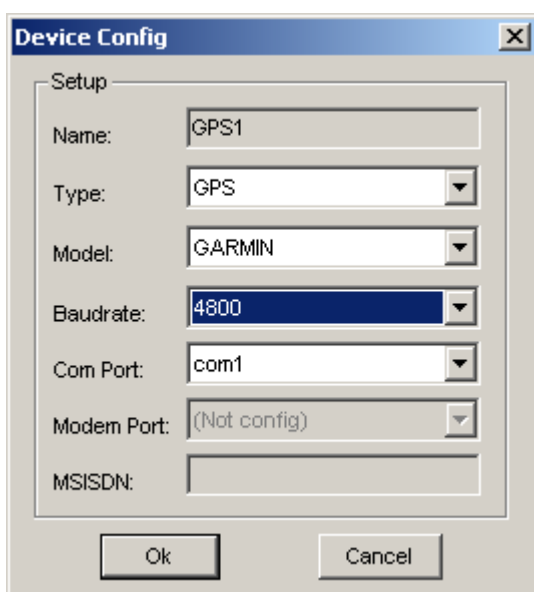

Figure 7-3 Baudrate drop-down list
- 1) Choose **GPS** in the **Type** drop-down list, as shown in Figure 7-3.